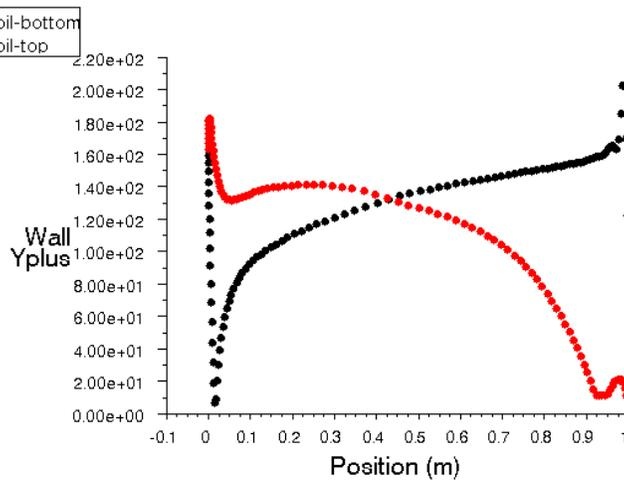

Figure 5.7: Wall Yplus Plot
14. Check the  $Y^+$  values around airfoil (Figure 5.7).